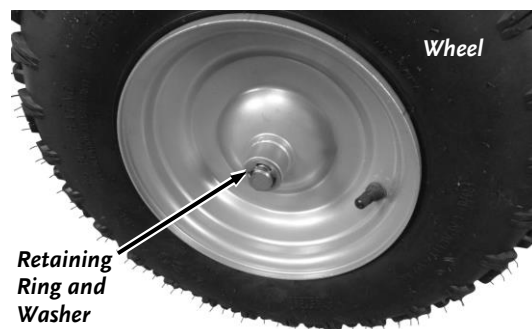

Figure 44
2. Pry off the Wheel Lock Ring with a Screwdriver (**Figure 44**). Remove the Washer and slide the Wheel off the Axle. Check the Axle to ensure the Key stayed in the Axle.